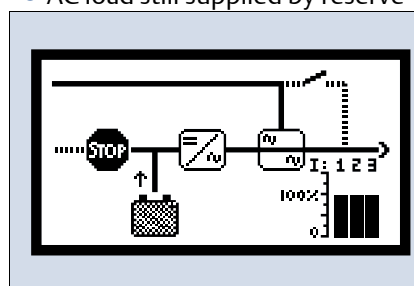

Figure 9: Active mimic panel, example of situation
- The Figure 9 provides an example of an active mimic situation: